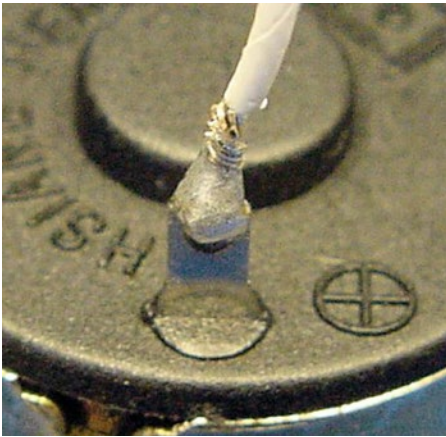

Figure 22-6. Wire and terminal soldered together
5. You should be pleasantly rewarded with a shiny, strong, rounded, encompassing solder joint (see Figure 22-6).